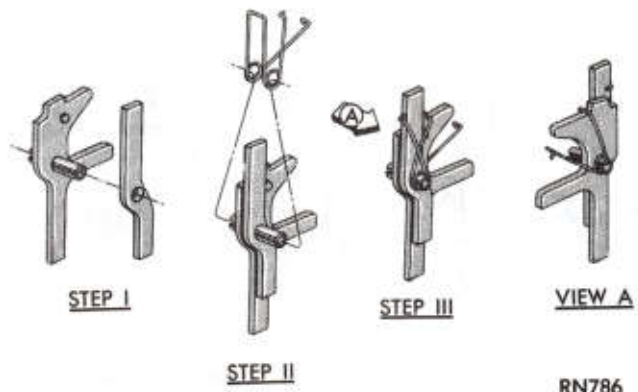

Fig. 19—Lock Levers and Spring Assembly
(5) Grease and assembly the two lock levers, lock lever spring, and pin (Fig. 19).